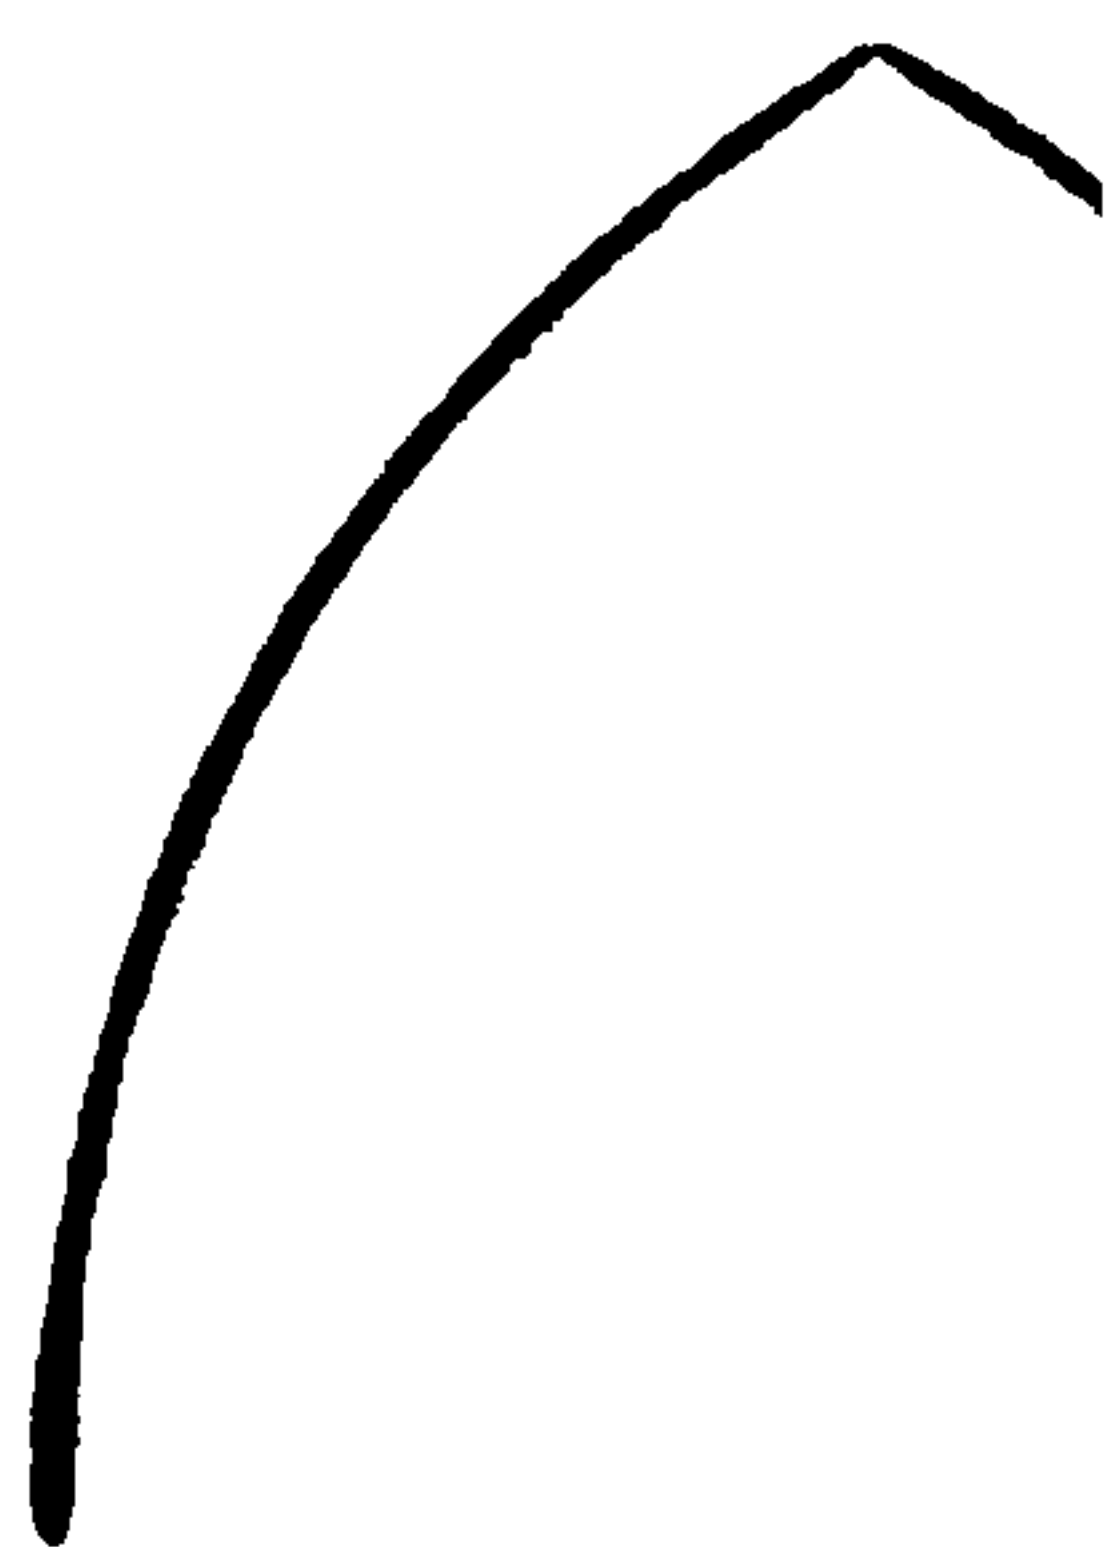

Fig. 14.
*The Gothic Arch* (Fig. 14) is very much used at the present day, both as shown in this figure,